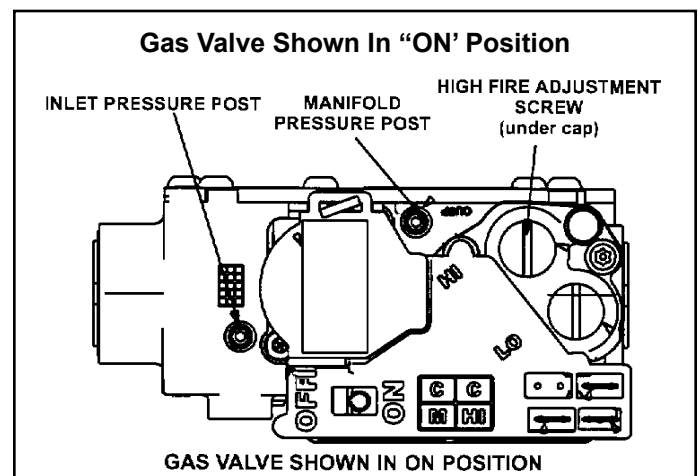

Figure 57.
6. Move gas valve switch to OFF. See Figure 57.
8. Move gas valve switch to ON. See Figure 57.
- A manifold post located on the gas valve provides access to the manifold pressure. See Figure 57. Back out the 3/32 Hex screw one turn, connect a piece of 5/16" tubing and connect to a manometer to measure manifold pressure.